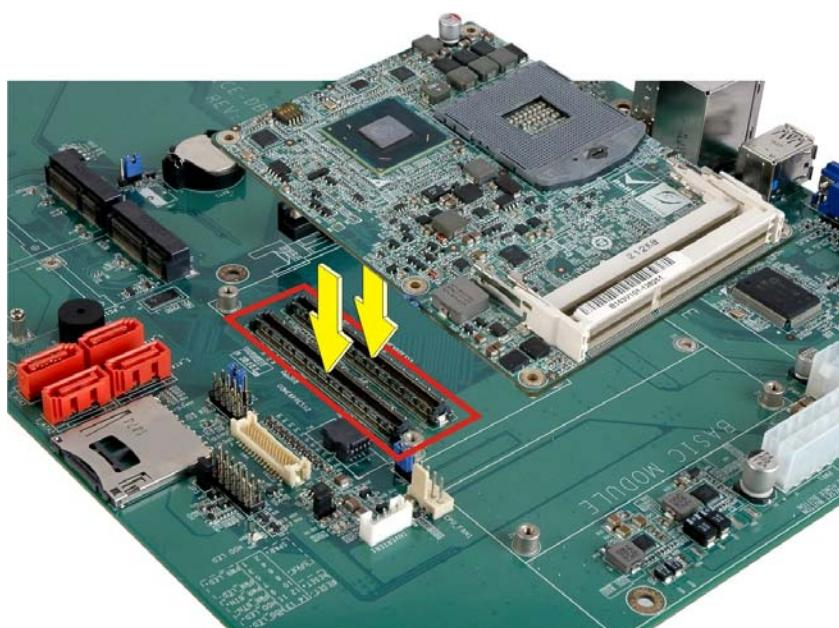

Figure 4-5: Connect the COM Express Connectors
Step 1: Align the two COM Express connectors on the reverse side of ICE-QM770 with the corresponding connectors on the baseboard. Gently push the COM Express module down to ensure the connectors are properly connected (Figure 4-5).